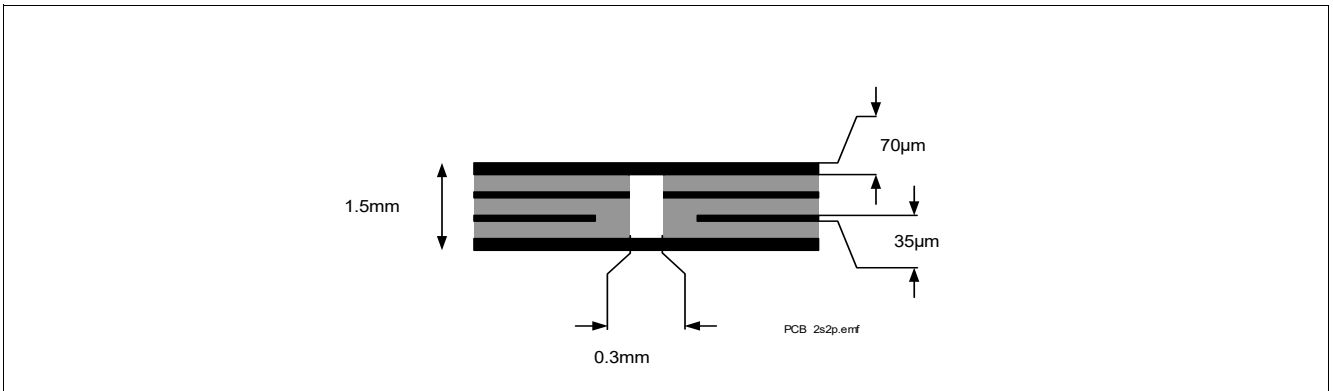

Figure 4 2s2p PCB Cross Section
2) Specified R_{thJA} value is according to JEDEC JESD51-2,-5,-7 at natural convection on FR4 2s2p board with 1 W power dissipation equally dissipated for both channels at $T_A=105^\circ\text{C}$; The product (chip + package) was simulated on a 76.4 x 114.3 x 1.5 mm board with 2 inner copper layers (2 x 70 μm Cu, 2 x 35 μm Cu). Where applicable, a thermal via array under the exposed pad contacts the first inner copper layer. Please refer to Figure 4.